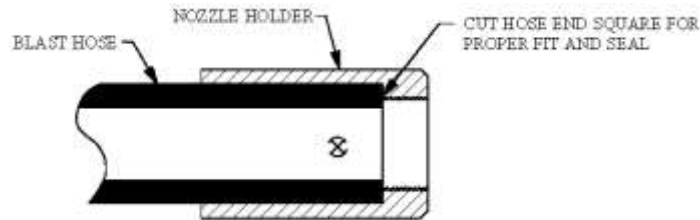

Figure 8.3 – Hose End Fit up
- 8.8. **Blast and Air Hose Gaskets:** All air hose, blast hose, and threaded couplings have gaskets that seal the connection. To protect against loss of air pressure and/or premature abrasive wear replace these gaskets when leaks are found. Inspect the couplings daily for leaks and wear. Replace gaskets when visible wear or leaks are found. When installing or replacing hose couplings cut the hose end square for secure fit (see Figure 8.3). To ensure proper coupling connection always use fittings that are the same brand. See the drawings and part lists in Section 9.0.